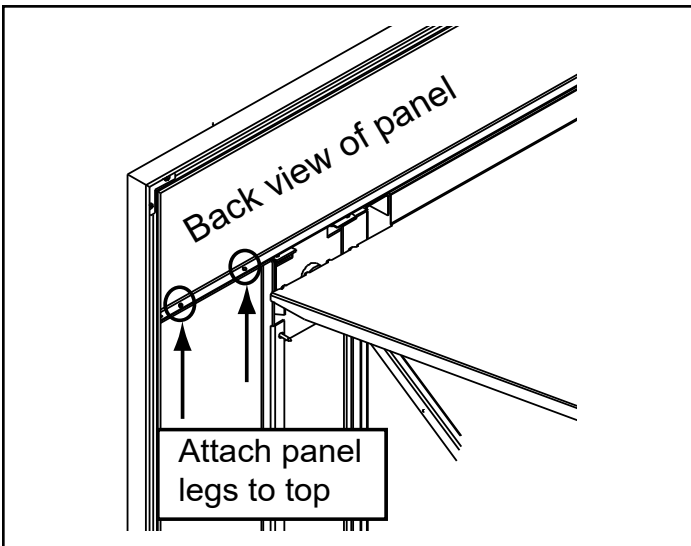

Figure 21.2
2. Attach the panel legs to the top panel using a Phillips head screwdriver. There are 2 screws for each leg (**Figure 21.2**).